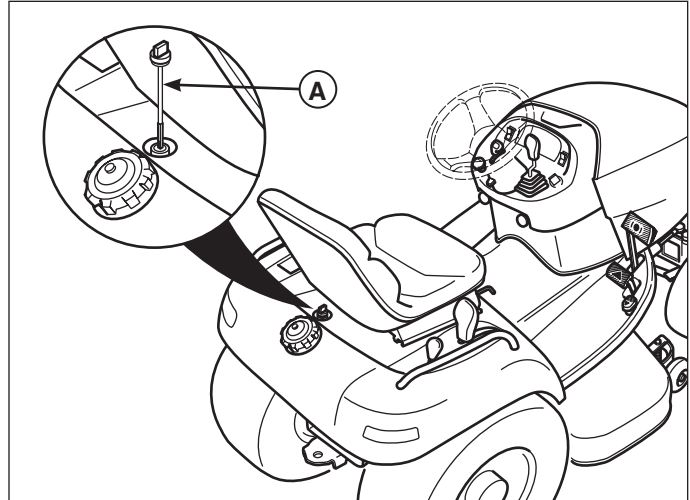

Figure 19. Transmission Fluid Check
1. Clean the area around the transmission dip stick (A, Figure 19).
2. Remove the dip stick (A) from the transmission and wipe it clean.